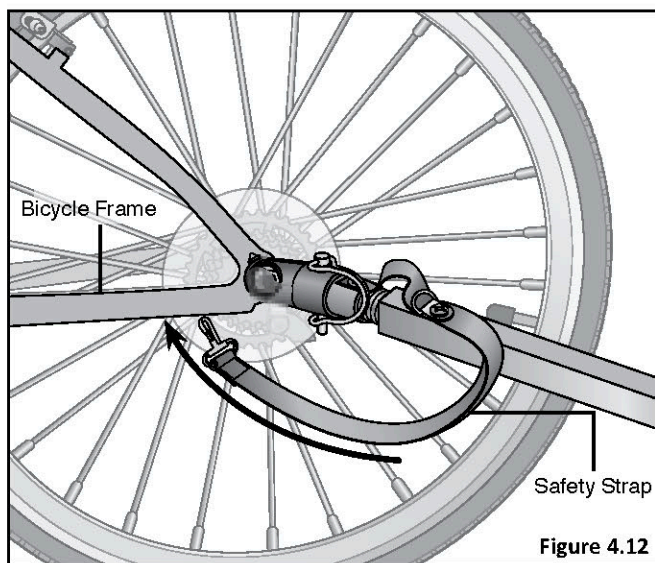

Figure 4.12
1. Wrap the tow bar safety strap around the bicycle frame. **Figure 4.12**